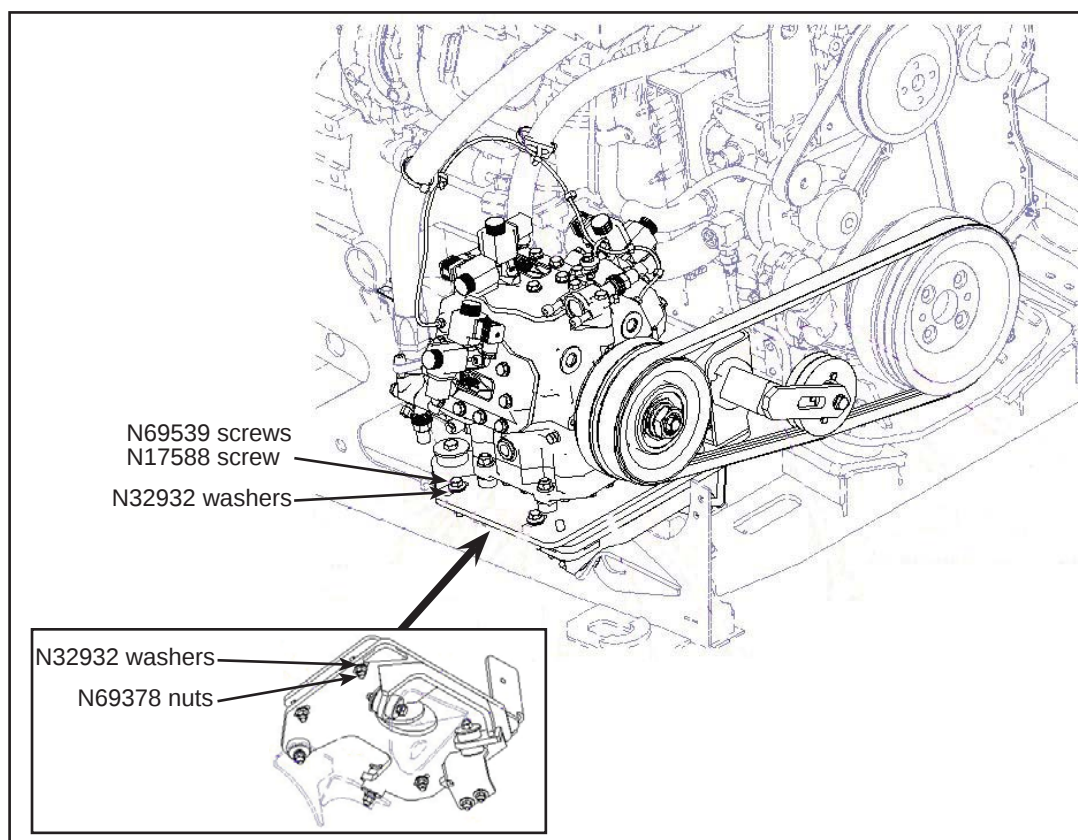

Figure 5 - New Hardware Location
- 1.8. Install new hardware N69539 M12x50 class 10.9 screws (3x), N17588 M12x70 class 10.9 screw (1x), N69378 M12 class 10.9 nuts (4x) and N32932 M12 Nordlock washers (8x). See Figure 5. Hand tighten the hardware.